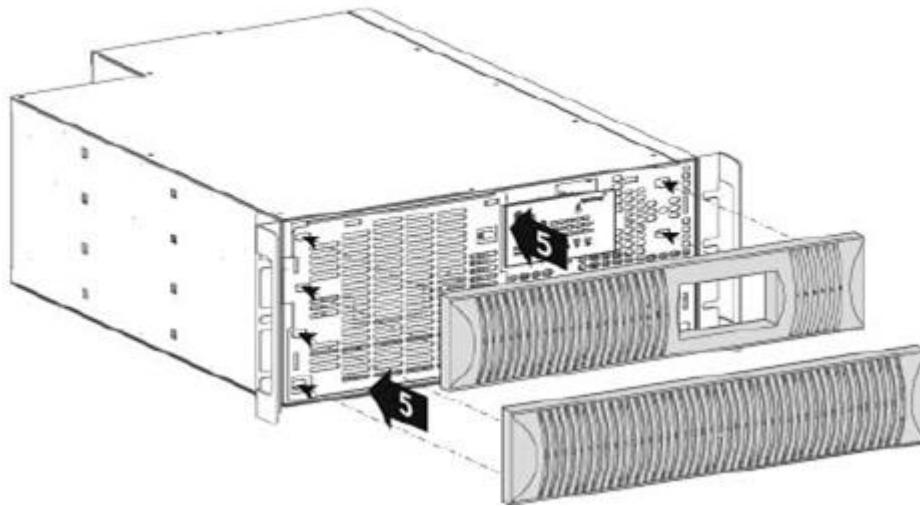

FIG 15 – XPRT-6KVA MOUNT PLASTIC FRONT PANELS
5. Mount the front panels by pushing the plastic part into the appropriate holes (see FIG 15).